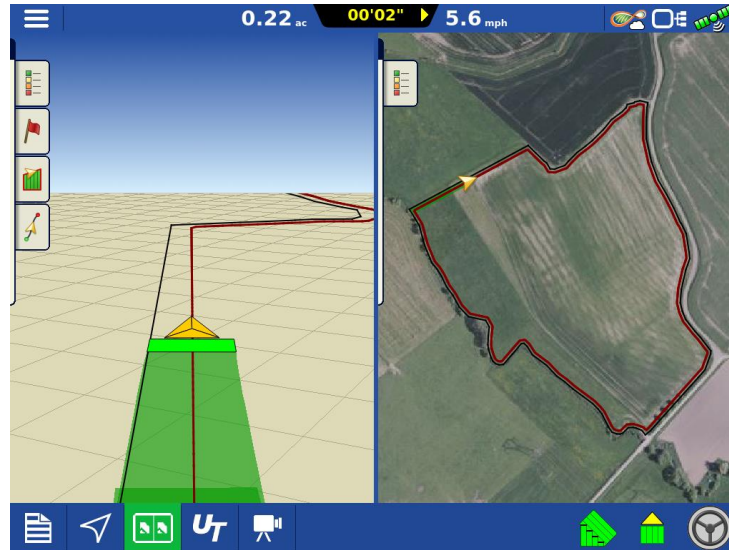

Figure 1 – Use boundary guidance to generate the first SmartPath® around inner & outer boundaries
- **NEW:** Boundary guidance line creation with SmartPath® (Figure 1)